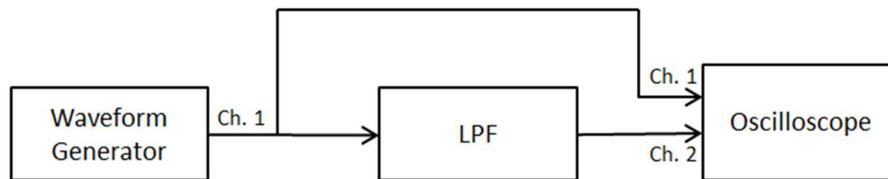

Fig. 2: measurement setup for Part II
1. In this part, we will observe the impact of a low-pass filter on periodic signals via the Fourier series representation of such signals. Assemble the experimental setup as shown in Fig. 2. Generate a 10 kHz square wave (50% duty cycle) signal with 1 Vpp amplitude in Channel 1 of the SG (Waveform Generator). Set the low-pass filter (LPF) cut-off frequency  $f_c$  to 15 kHz, and the filter type to Butterworth (bu). Observe the input and output of the LPF on the oscilloscope. Explain the waveform of the output. Measure its amplitude and compare it with your prelab calculations. Do they agree with each other? For all calculations, you may assume that the LPF is the ideal (brick-wall) low-pass filter with the given cut-off frequency. Increase  $f_c$  to 25 kHz, 35 kHz, 45 kHz and 55 kHz; each time observe the output and explain the changes you see. Finally, set  $f_c$  to 200 kHz, observe the output and explain what you see. How many terms of the input Fourier series will appear at the output each time?
1. Keep the setup of Fig. 2. Set the LPF  $f_c$  to 50 kHz and the low-pass mode, Butterworth type.